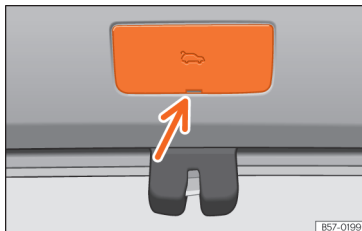
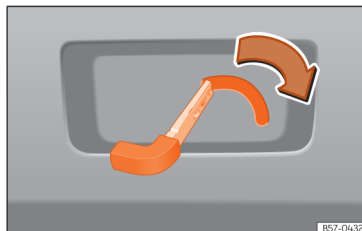

Fig. 101 Detail of the luggage compartment: access to emergency unlocking.
Fig. 102 Detail of the luggage compartment: emergency unlocking
- Lever the cover off with the emergency key » **Fig. 101**.
- Insert the emergency key into the slot and move it in the direction of the arrow until the lock unlocks » **Fig. 101**, » **Fig. 102**.